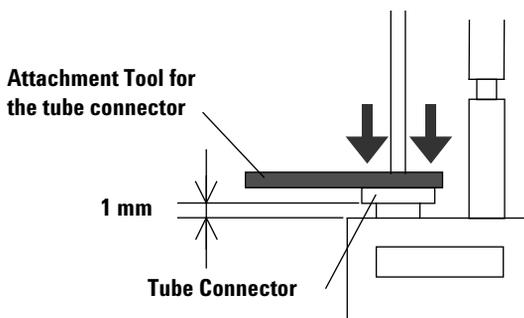

Figure 51
- b Insert the tube connector with the sample uptake into the sample tube hole of the Babington Nebulizer (Figure 51). Use the shallow groove side of the attachment tool for tube connector until the edge of the tube connector reaches the bottom of the hole. The gap between the base of the tube connector and the edge of the hole should be 1 mm.